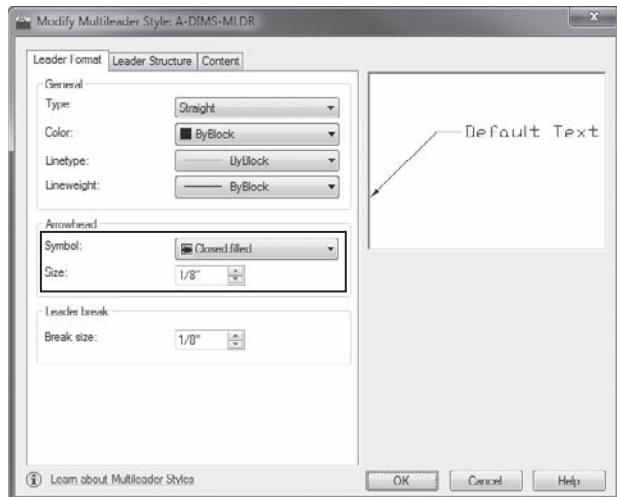

FIGURE 12.44 The Modify Multileader Style dialog box
4. The Modify Multileader Style dialog box opens (see Figure 12.44). This is where you define the leader properties.
6. In the Scale area, make sure the Specify Scale radio button is selected and then click in the text box and enter $64\downarrow$ ($70\downarrow$), as shown in Figure 12.44.